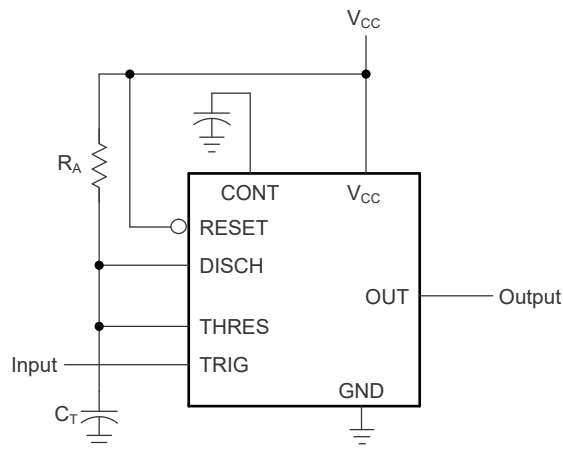

Figure 6-2. Circuit for Monostable Operation
- (1) For conditions shown as MIN or MAX, use the appropriate value specified under *Recommended Operating Conditions*.
(2) Values specified are for a device in a monostable circuit similar to Figure 6-2, with the following component values: $R_A = 2k\Omega$ to $100k\Omega$, $C_T = 0.1\mu F$.
For monostable operation, Figure 6-2 shows how either of the timers can be connected. If the output is low, application of a negative-going pulse to the trigger (TRIG) sets the internal latch; the output goes high, and discharge pin (DISCH) becomes open drain. Capacitor C_T then is charged through R_A until the voltage across the capacitor reaches the threshold voltage of the threshold (THRES) input. If TRIG has returned to a high level, the output of the threshold comparator resets the internal latch, the output goes low, the discharge pin goes low, which quickly discharges capacitor C_T .
As shown in Figure 6-3, adding a second resistor, R_B , to the circuit of Figure 6-2 and connecting the trigger input to the threshold input causes the timer to self-trigger and run as a multivibrator. The capacitor C_T charges through R_A and R_B and then discharges through R_B only. Therefore, the duty cycle is controlled by the values of R_A and R_B .